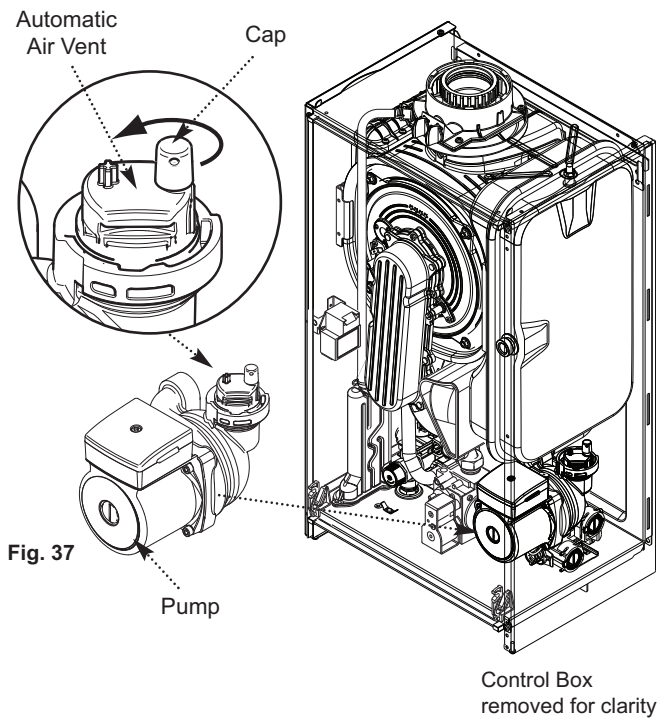

Fig. 37
- Ensure that the filling loop is connected and open, then open the heating flow and return valves on the boiler. Ensure that the cap on the automatic air vent on the pump body is opened (Fig. 37).